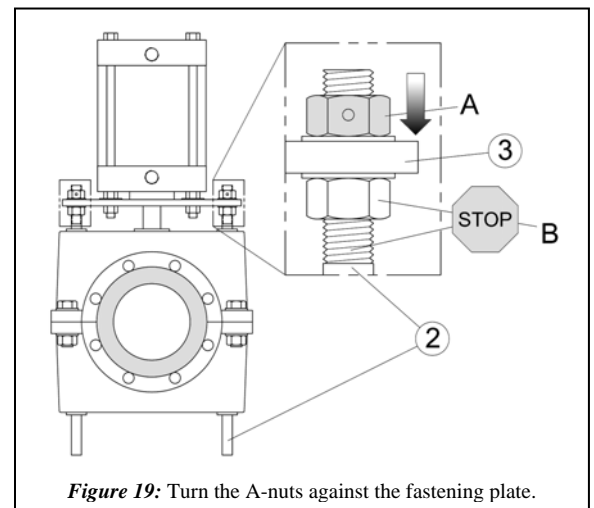

Figure 19: Turn the A-nuts against the fastening plate.
STEP 12: Actuate the RF Valve® open and tighten both A-nuts against the fastening plate ③ (Fig. 19). DO NOT allow the B-nut to turn along the pull bar ② during this step.